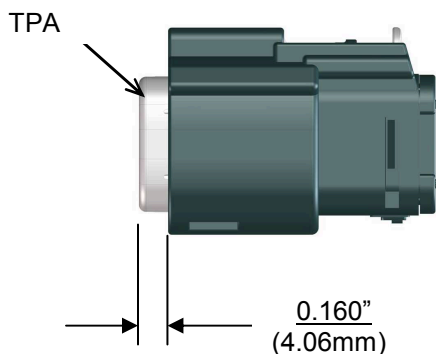

Figure 6: TPA in Pre-Lock Position
1. Begin assembly of the crimped female terminals into the receptacle housing by making sure the Terminal Position Assurance feature (TPA) is in the pre-locked position (See Figure 6).